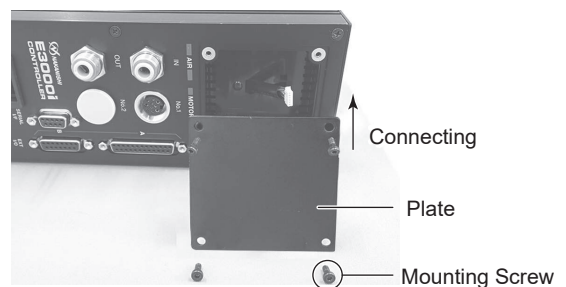

Fig. 40
- (5) Mounting the Plate using the 4 mounting screws. (Fig. 40).